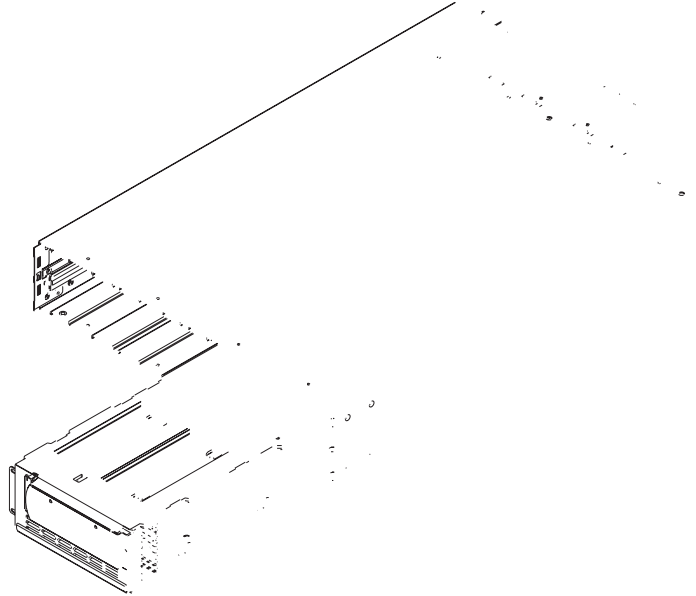

Figure 233. Removing the 2145 UPS electronics assembly
- a. Remove the two screws **1** (see Figure 233).